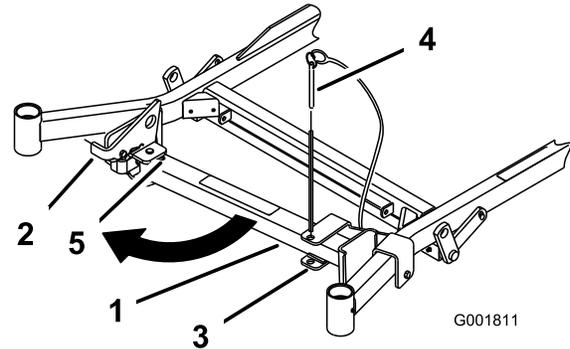
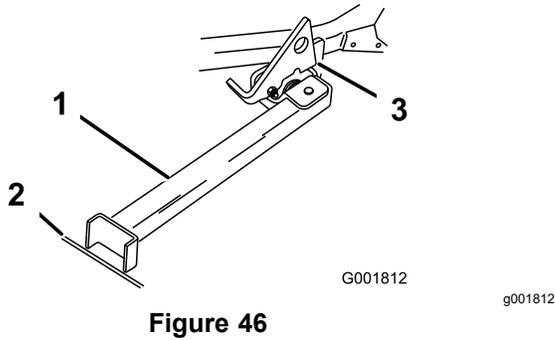

Figure 45
Figure 46
2. Remove the bracket pin (Figure 45).
- Swing the stand foot out front and slide it toward machine, into the bottom of slot (Figure 45 and Figure 46).
- Set the foot of the stand on the ground and rest the latch on the pivot tab (Figure 46).
Note: For best results, place the foot of the stand into the seams in sidewalks or into the turf (Figure 46).
- Drive the machine onto the stand. Stop when the latch drops over the tab into the locked position (Figure 46).
- Return the stand to its rest position (Figure 45).